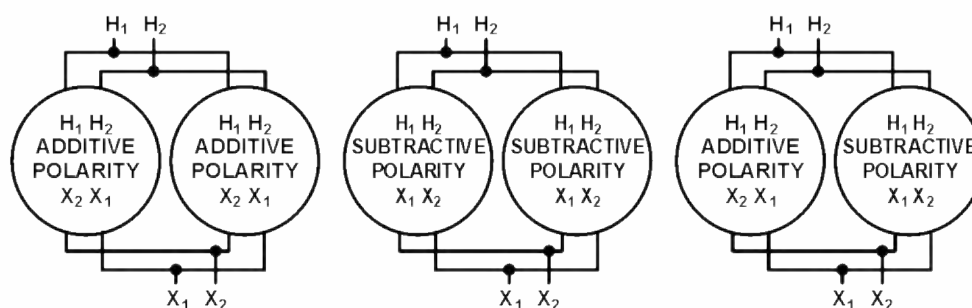

Figure 16 – Single-Phase Paralleling.
1. Any combination of positive and negative polarity transformers can be used. However, in all cases, numerical notations **must be followed** on both primary and secondary connections. That is H₁ connected to H₁, H₂ connected to H₂, and X₁ connected to X₁, X₂ connected to X₂, X₃ connected to X₃. Note that each subscript number on a transformer must be connected to the same subscript number on the other transformer as shown in figure 16.
With positive and negative polarity transformers, the location of X₁ and X₂ connections on the tanks will be reversed. Care must be exercised to ensure that terminals are connected, as stated above. See figure 16.